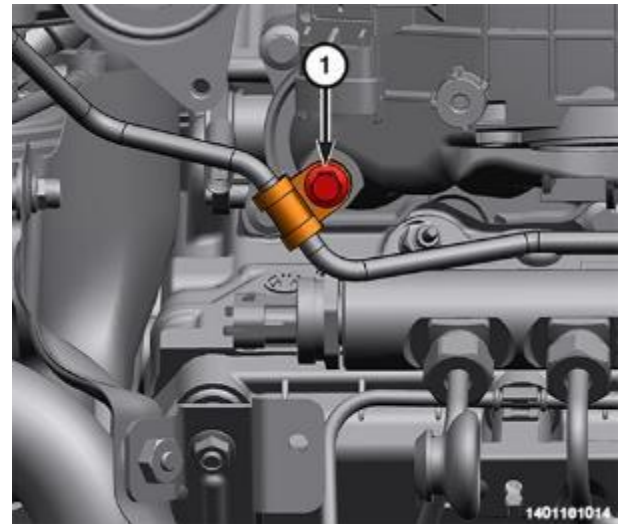

Figure 115 – Crossover Tube Bolt
- 46. Remove the fuel crossover tube bolt (1) (Figure 115).